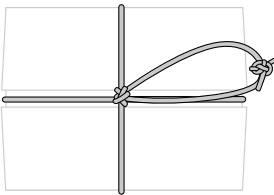

Figure 1
- If the cargo only needs to be delivered once, leave a rope length between 20 cm and 40 cm and secure it with a knot. Hang the cargo on the hook using the rope loop, as shown in Figure 1. Make sure the hook can move freely within the rope loop.